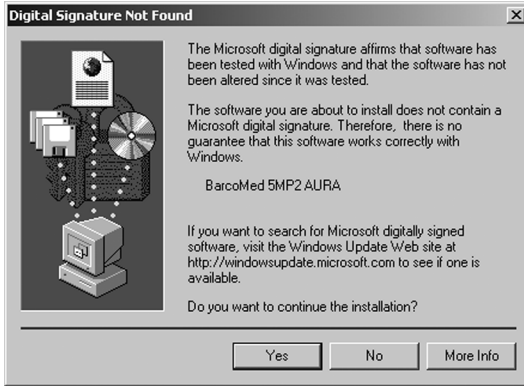

Figure 11
13. When the screen shown in figure 11 appears, click “Yes” to continue. This screen may appear multiple times.